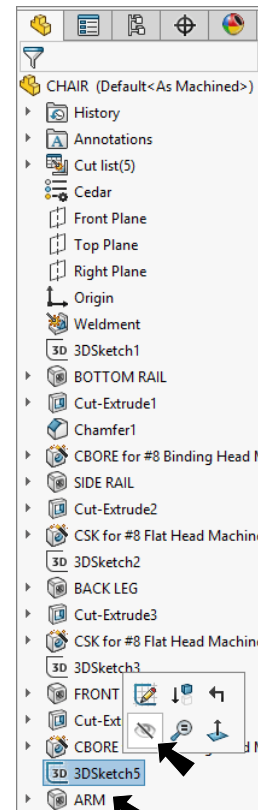

Fig. 8
Step 1. **Rename Chair Wood 2 X 6(1)** to **ARM** in the Feature Manager, **Fig. 8**.
the Feature Manager and click **Hide**  on the context toolbar, **Fig. 8**.